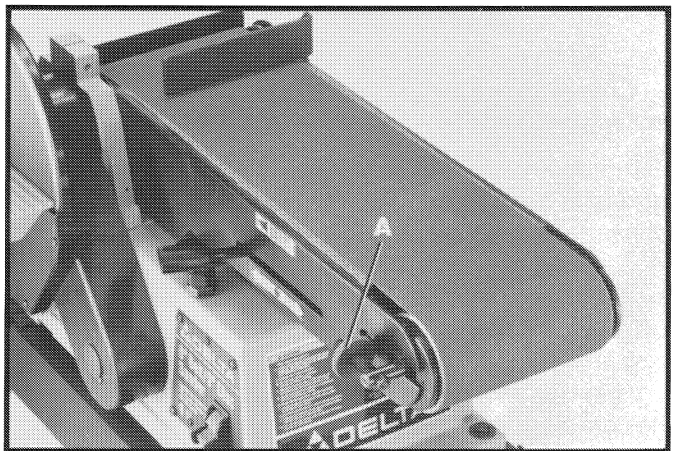

Fig. 21
2. If the sanding belt moves toward the disc, turn the tracking knob (A) Fig. 21, counterclockwise 1/4 turn.
3. If the sanding belt moves away from the disc, turn the tracking knob (A) Fig. 21, clockwise 1/4 turn.